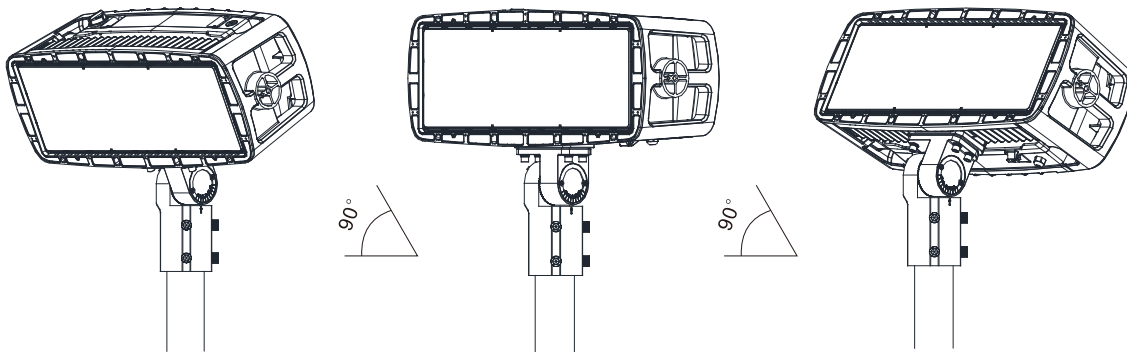

Figure 10
3. Use an open-end wrench and hex wrench to loosen the adjusting screw for adjusting the angle ( Figure 10)